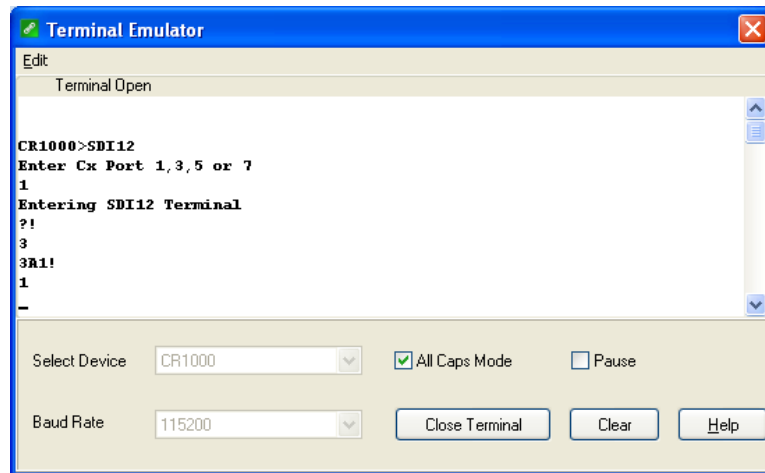

Figure D-2. CR1000 example of using the SDI-12 transparent mode to change the SDI-12 address from 3 to 1. Sensor is connected to control port 1.
6. To change the SDI-12 address, key in **aAb! <enter>**, where *a* is the current address from the above step and *b* is the new address (see Figure D-2). The OBS501 will change its address and the datalogger will respond with the new address. To exit SDI-12 transparent mode, select the **Close Terminal** button.